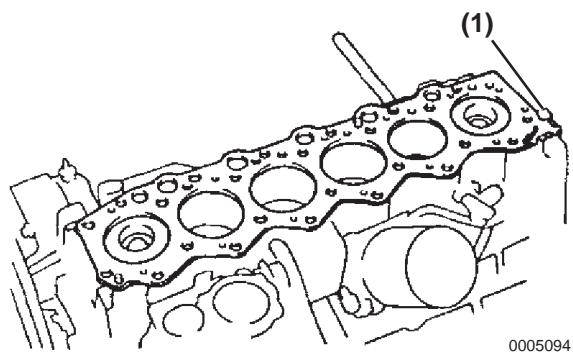

Figure 5-66
10. Install a new cylinder head gasket in position on the cylinder block (**Figure 5-66**).